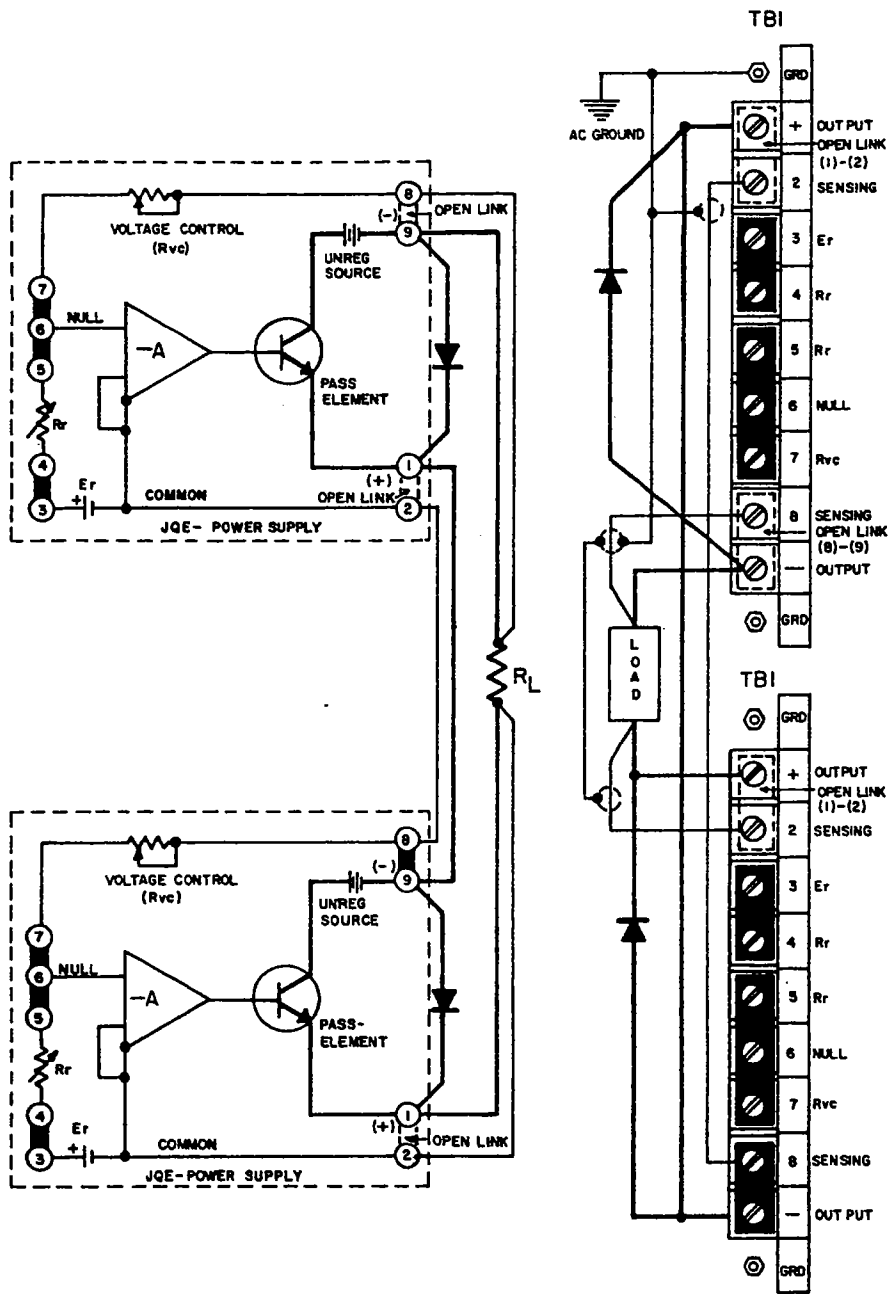
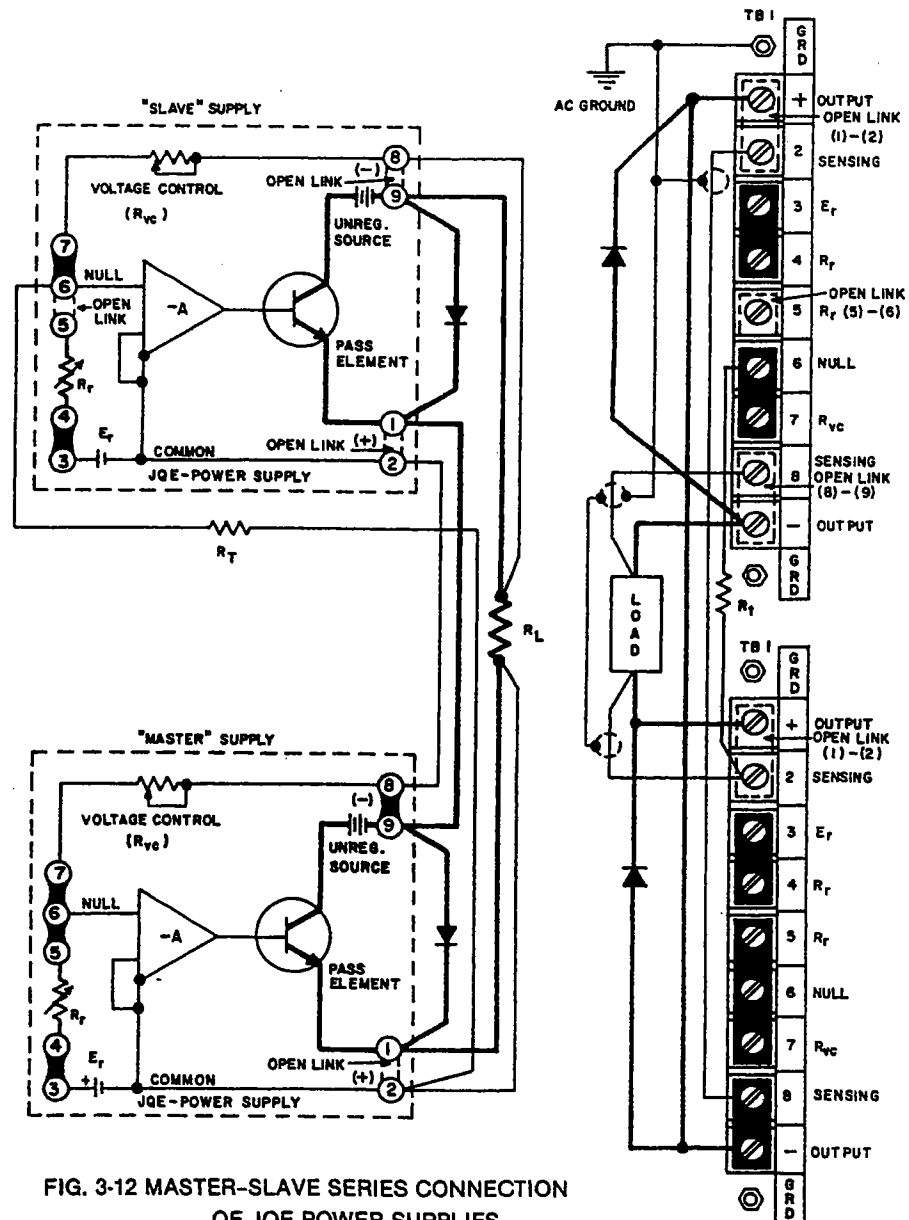

FIG. 3-11 AUTOMATIC SERIES CONNECTION OF JQE POWER SUPPLIES
FIG. 3-12 MASTER-SLAVE SERIES CONNECTION OF JQE POWER SUPPLIES
3-35 GENERAL. Kepco JQE Power Supplies can be series-connected for increased voltage output, provided the specified limits on voltage to chassis are not exceeded. When series-connected, the supplies should be protected by means of a semi-conductor diode across the output terminals of each power supply, as shown in FIG. 3-11. The peak inverse rating of these diodes must be at least as large as the output voltage of the supply to which they are connected. The continuous current rating of the diodes should be at least as great as the maximum output current of the interconnected supplies.
- Connect load as shown in FIG. 3-11. Keep voltage drop in load wires as low as practical by using heavy gauge wire.
3-37 An alternate method of series-connecting two or more power supplies is shown in FIG. 3-12. The basic difference between the "Automatic" series connection, shown in FIG. 3-11, and the "Master-Slave" connection (FIG. 3-12) is that with the former connection the outputs of both supplies may be controlled or programmed individually, while with the latter method only the "Master" supply is controlled, while the "Slave" supply follows the command of the "Master" in a ratio which may be pre-determined by the user. The "Master-Slave" series connection is therefore often termed an "Automatic Tracking" configuration.
As seen from FIG. 3-12, the reference voltage of the "Slave" supply is disconnected and its input (null junction) is connected (via R_t) to the output of the "Master" supply. Since the control current for the "Slave" supply is thereby derived from the "Master", the "Slave" output is thus completely dependent on the "Master" supply output:
As seen from the equation, if the tracking resistor (R_t) is made equal in value to the voltage control resistor of the "Slave" (R_{vcs}), a tracking ratio 1:1 is achieved, and the output of the "Slave" will equal that of the "Master". If a single load is connected to the series combination (FIG. 3-12), twice the "Master" output is applied to it. If separate loads are connected, identical voltages are applied to the individual loads. The ratio E_{os}/E_{om} can be readily changed if the application so requires by simply changing either R_{vcs} or R_t .
- Connect load(s) as shown in FIG. 3-12.